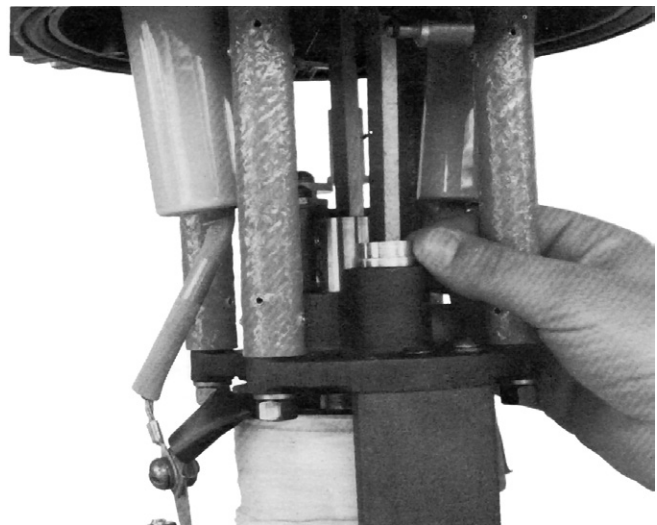

Figure 10. Pump piston shell adjustment
5. If the sequence is still not correct, the pump piston needs to be adjusted or replaced. To adjust, the recloser will have to be disassembled to remove the solenoid frame. Drill out the stake punch in the pump piston shell (Figure 10).